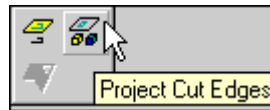

Figure 3: Project Cut Edges Tool.
4. From the Sketch Panel bar, click the down arrow next to the Project Geometry tool and click the Project Cut Edges tool (see Figure 3).